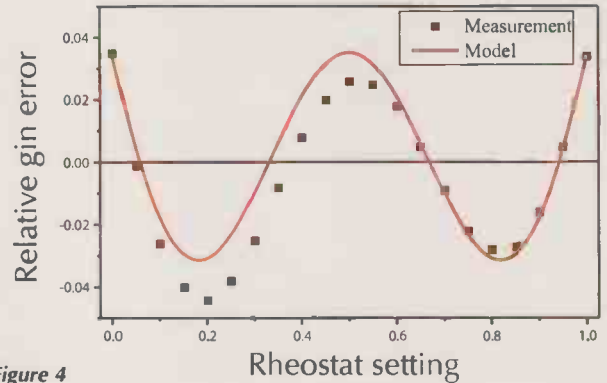

Figure 4
* 180 and Figure 4 displays the gain error